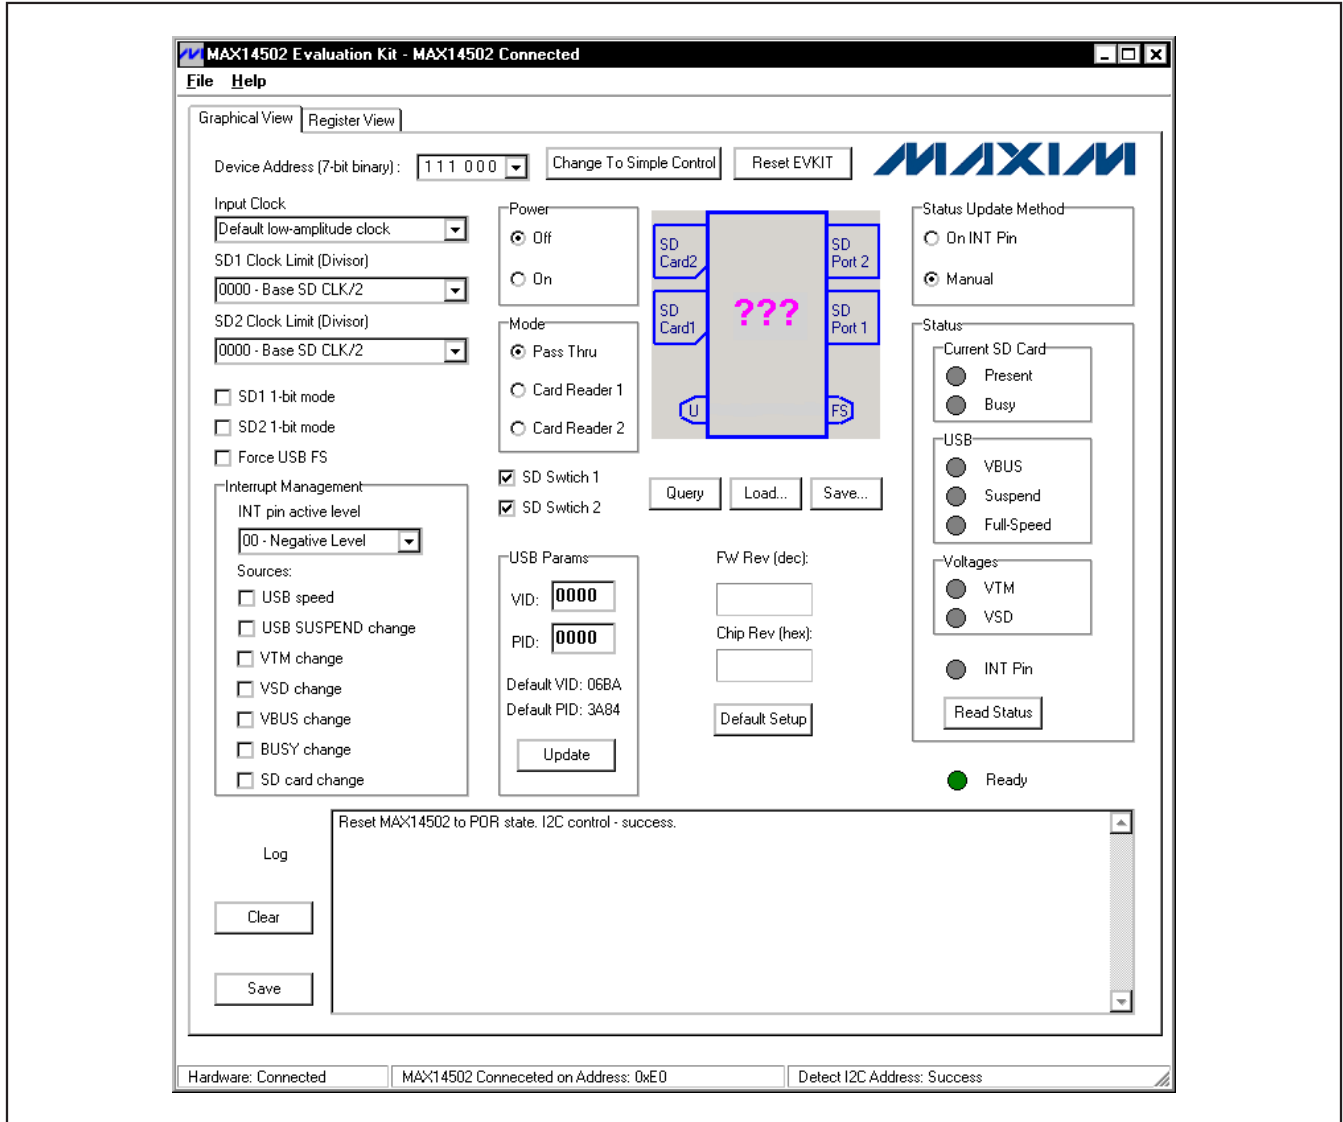

Figure 2. MAX14502 Software Main Window (Graphical View Tab)
- 17) Press the **Change To I2C Control** button to set the MAX14502 in I2C control mode. Verify that **MAX14502 Connected on Address: 0xE0** is displayed on the status bar. All the I2C register controls are available on the GUI, as shown in Figure 2.
When the **Graphical View** tab (Figure 2) is selected, a user has access to all of the I2C registers through the on-board USB-to-I2C bridge.